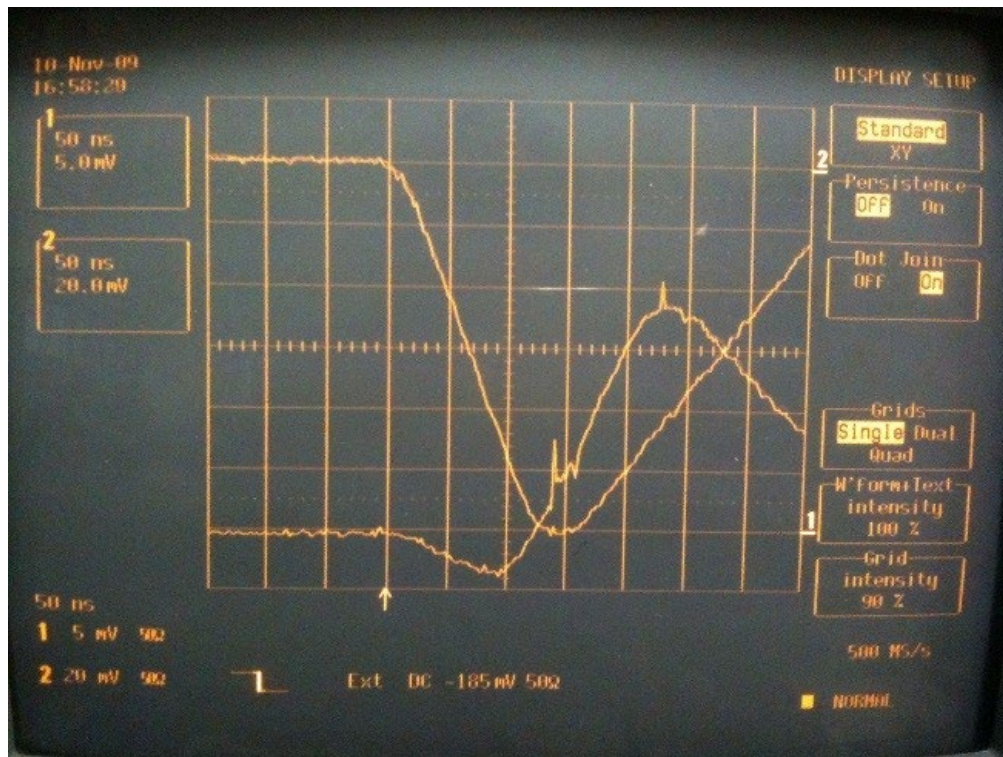

Figure 4. Input signal and CFD monitor output.
Connect the CFD monitor output (M) to the scope CH2 and reproduce Fig. 4.